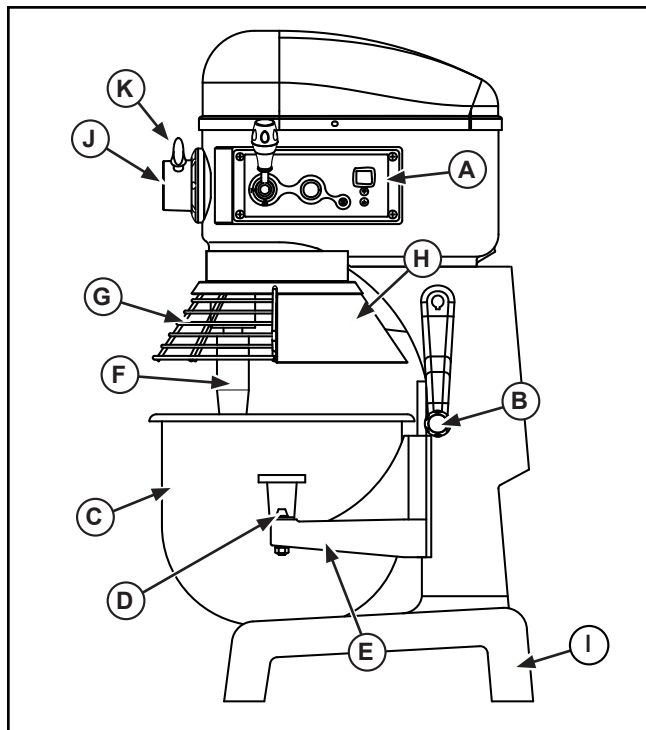

Figure 2. 20 Quart Mixer, Features and Controls.
1. Close the bowl guard (G). See Figure 2. The safety guard must be closed for the mixer to operate. If the safety guard is open or not closed properly then the mixer will not operate.